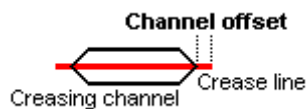

Figure 26
**Channel Offset** sets the distance from the end of the crease line in the file to where the creasing channel stops (see Figure 26). This helps to keep the matrix together.